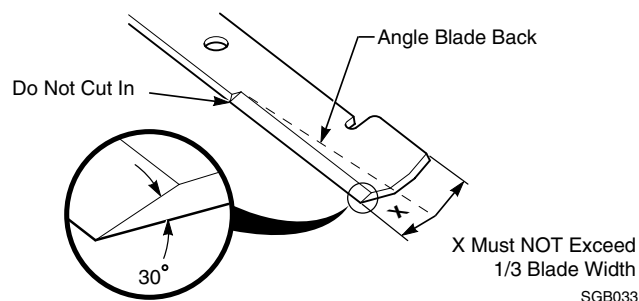

Figure 7-9 Blade Sharpening
1. Sharpen the cutting edge at the same bevel as the original (See Figure 7-9). Sharpen only the top of the cutting edge to maintain sharpness.